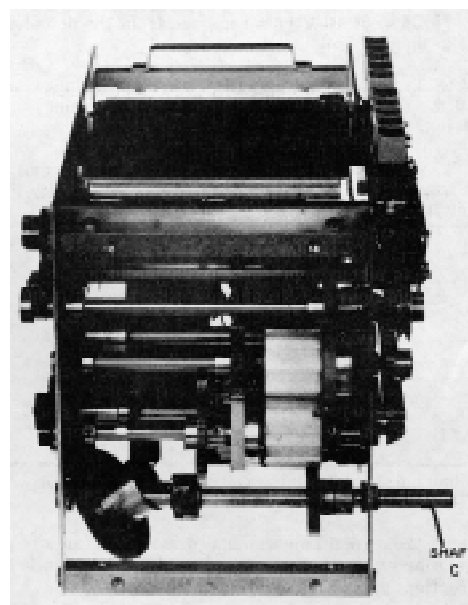

Figure 5-14. Shaft C Inspection
a. Loosen the shaft collar and gear on the right end of shaft C. Slowly pull the shaft to the right about 2" while holding the miniclutch gear (see Figure 5-14). A shim washer may be found between the miniclutch gear and the left side plate. Wash the clutch gear with solvent and inspect the inner surface of the hub for wear. Wash the miniclutch rollers with solvent, and inspect the rollers for excessive wear.